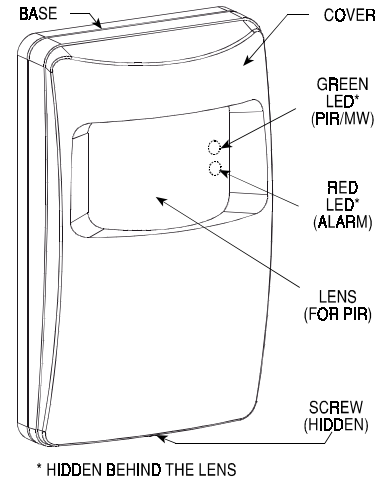

Figure 1. DUO 200 General View
- A. Loosen and remove the screw at the bottom of the case (see Figure 1) and then take the cover off.
The two LEDs (see Figure 1) are used to signal various alarm and trouble messages as shown in Table 1 below: